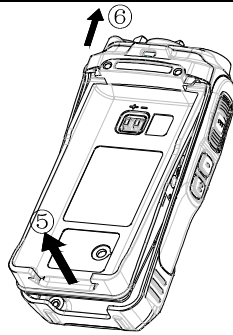

Figure 6
- ⑤ Lift the chassis bottom with an instrument and pull out the chassis backwards.
- ⑥ Remove the rear cover of the radio. See figure 6.